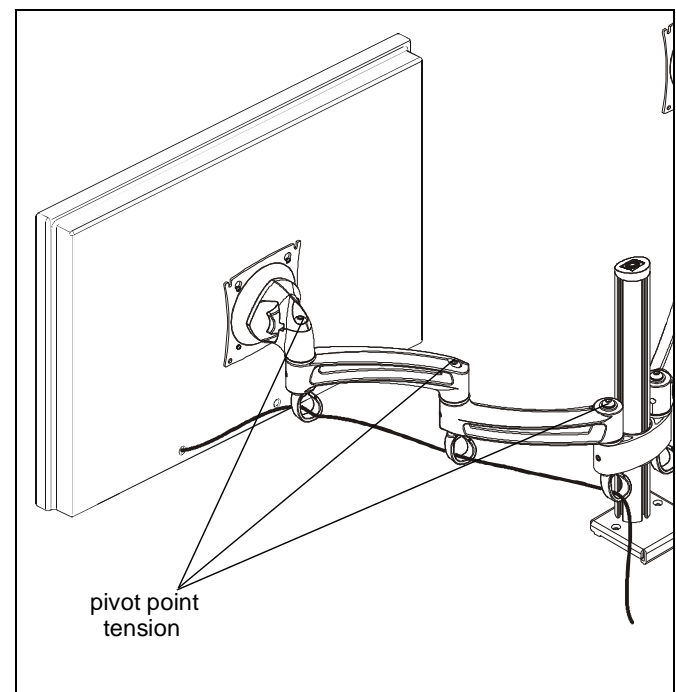

Figure 7
1. Adjust pivot position as desired. (See Figure 7)
2. Adjust pivot point tension screws to change pivot adjustment tension. (See Figure 7)